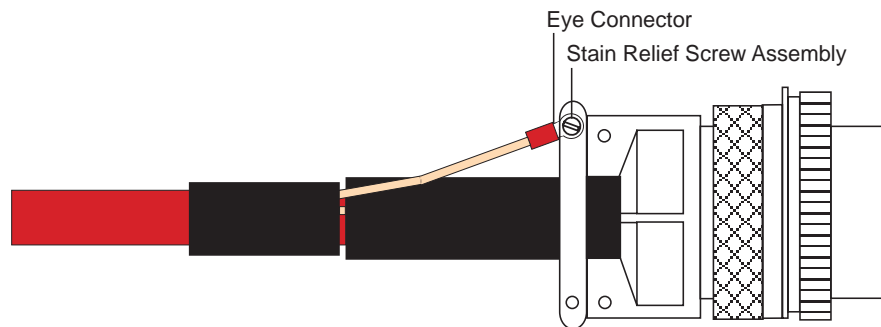

Figure 3: Eye Connector to Strain Relief Screw Assembly
3. Solder eye connector to the end of the drain wire and attach to strain relief screw assembly (see Figure 3).